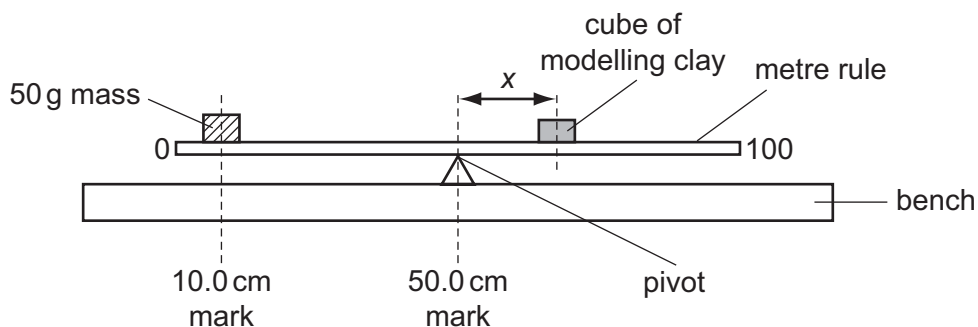

Fig. 7.2
(b) You are going to set up the balance shown in Fig. 7.2.
- Place the pivot directly under the 50.0 cm mark, as shown in Fig. 7.2.